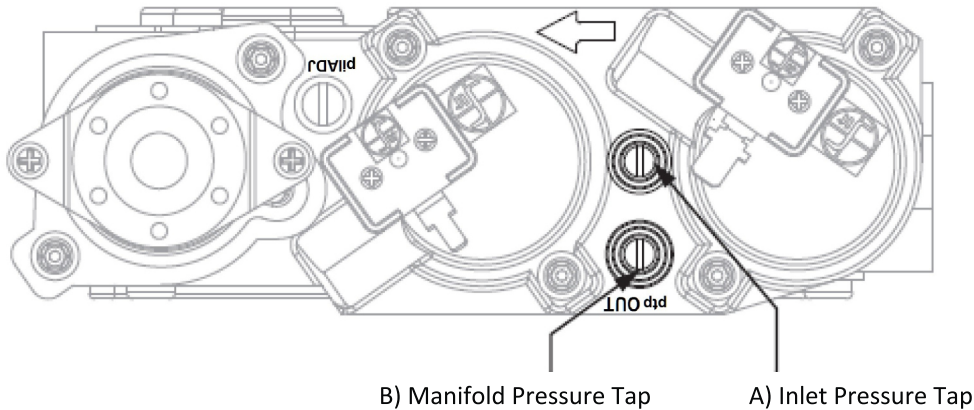

Figure 10.1 - Pressure Check Taps
1. Loosen the inlet (IN) pressure tap by turning screw counter-clockwise. See (A) in Figure 10.1.
5. Disconnect hose and tighten the inlet (IN) pressure tap by turning screw clockwise. Screw should be snug. Do not over tighten.
6. Relight pilot and burner. Then reattach manometer to the inlet pressure tap (A) to verify the tap is completely sealed. Manometer should read no pressure.
1. Light pilot. Loosen manifold (OUT) pressure tap by turning screw counter-clockwise. See (B) in Figure 10.1.
6. Attach the manometer to the manifold pressure tap (B) to verify it is completely sealed. The manometer should read no pressure when pilot and burner are on.